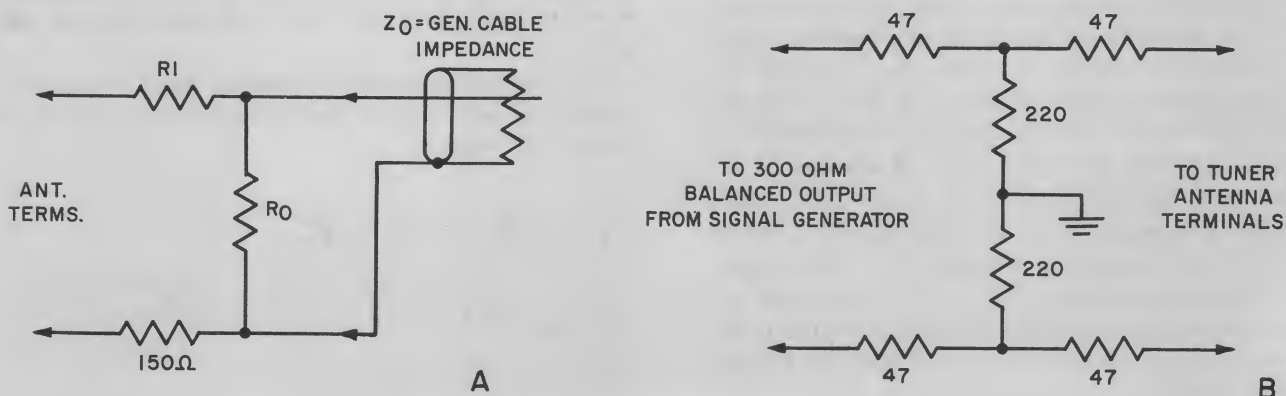

Fig. 10-8. Antenna matching pads. Courtesy *Hillcrafters*.
*a. Matching Pads — Unbalanced Generator Output.* For generators with unbalanced output, whose output impedance  $Z_o$  is less than the 300-ohm input impedance of the receiver, the matching pad shown in Fig. 10-8 (A) may be used.
*b. Matching Pads — Balanced Generator Output.* TV sweep generators with balanced output usually have a 300-ohm output impedance. A one-to-one matching pad, as shown in Fig. 10-8 (B), may be required. This minimizes standing waves, which arise from the fact that the input impedance of the receiver is not constant for each channel. Receiver impedance changes are seen as much smaller changes by the generator looking into the pad.
Use of a pad results in a smaller signal across the receiver input than is put out by the generator. In the pad shown in Fig. 10-8 (B) approximately 50
The percentage of signal fed to the receiver can be increased, but at a slight loss in the effectiveness of the matching pad. The values of pad resistors required to give greater generator signal across the receiver are shown below. Column 1 shows value of resistors required to replace each of the 47-ohm resistors, while Column 2 gives the value required to replace each of the 220-ohm resistors in Fig. 10-8 (B).